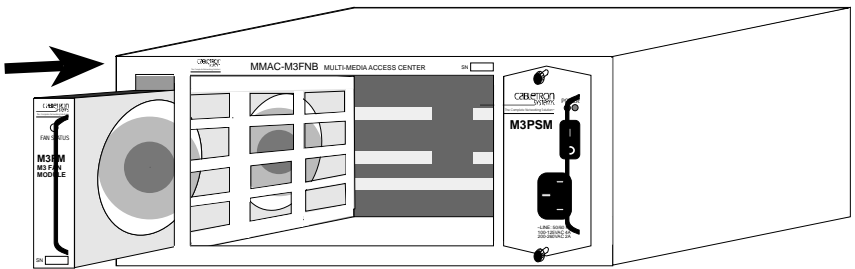

Figure 3-3. Inserting the Fan Tray
1. Hold the fan tray (see Figure 3-3, below) with the handle closest to the MIM cavity (right) and align the slotted paths on the tray with the slot guides on the top and bottom of the far left opening on the MMAC-M3FNB chassis.